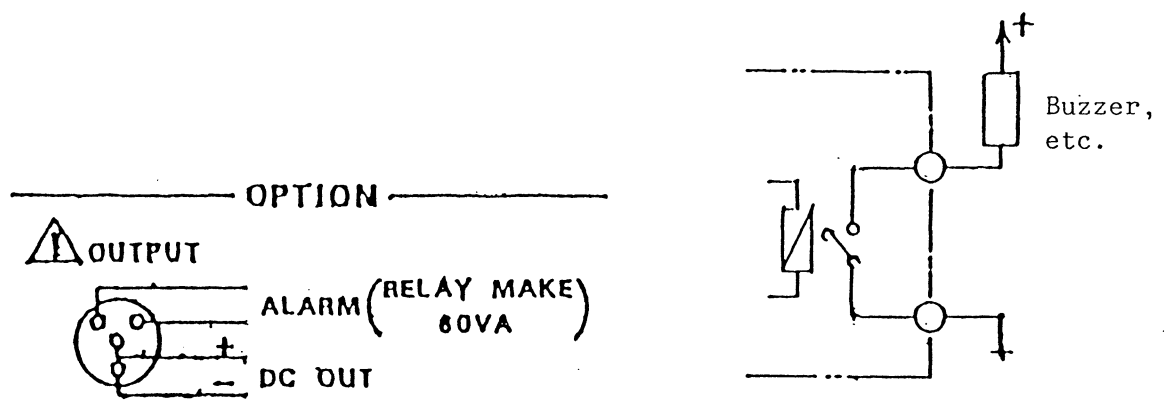

Figure 23 Output Connector Pin and Usage Example
Built-in buzzer or contact output can be selected for alarm output using the BUZZER-ON/OFF switch ⑬ on the rear panel. The built-in buzzer is activated when the BUZZER-ON/OFF switch is set to BUZZER, while contact output is output to the output connector ⑭ when it is set to OUT. The maximum usage condition of contact is 110 V at 2 A. Figure 23 shows the pin used by the output connector ⑭ and its usage example.
See Figure 23 for the pin of the output connector ⑧ .
Connection and the pin used for output connector ⑧ is shown in Figure 23.